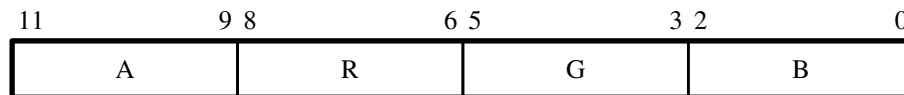

Figure 12. 12-bit RGBA Color Space.
- 12-bit RGBA — This format contains alpha values as well as RGB and uses 3 bits of each color as shown in Figure 12. This mode is defined as 3 bits per color and four color planes.